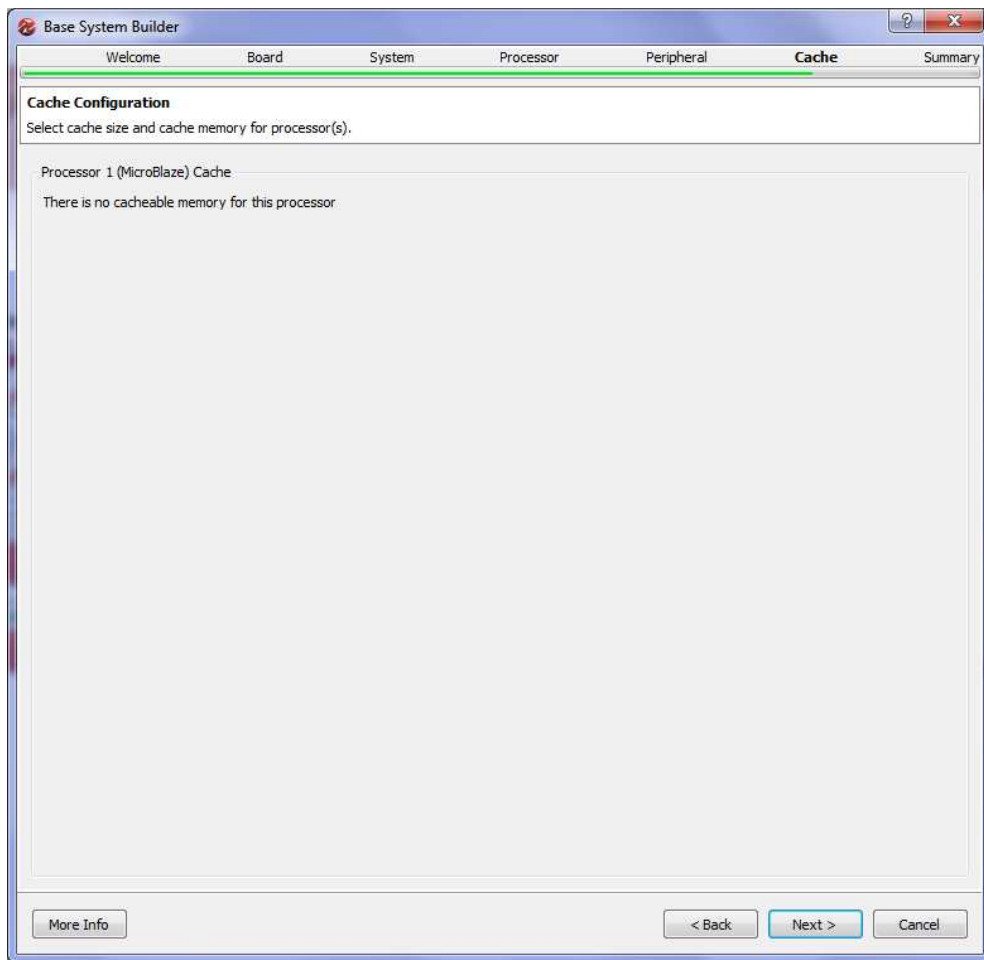

Figure 11. Cache Configuration (Step 9)
Step 9: Cache configuration screen is shown in Figure 11. If we have more than one memory types connected to the processor, we can use cache memory to speed up memory access. As we only have local memory connected to the processor, no cache memory can be configured. We will leave this screen unchanged and press “Next”.